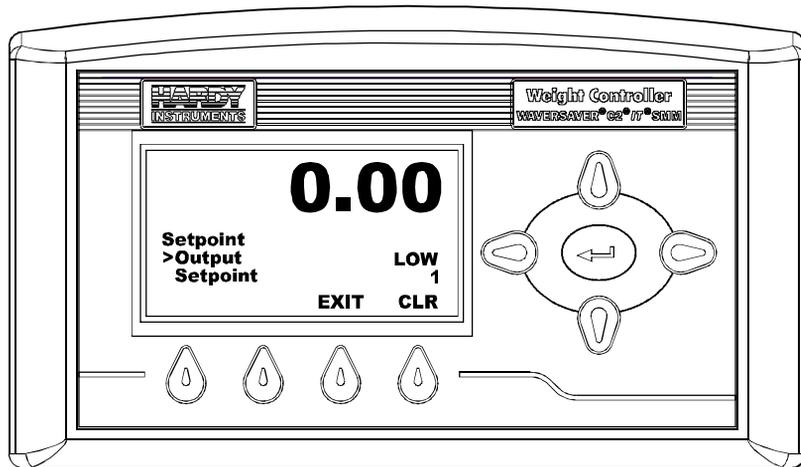

FIG. 374 SETPOINT MENU/READING OUTPUT
Step 28. Press the down arrow button until the cursor is in front of "Output". (See Fig. 374)